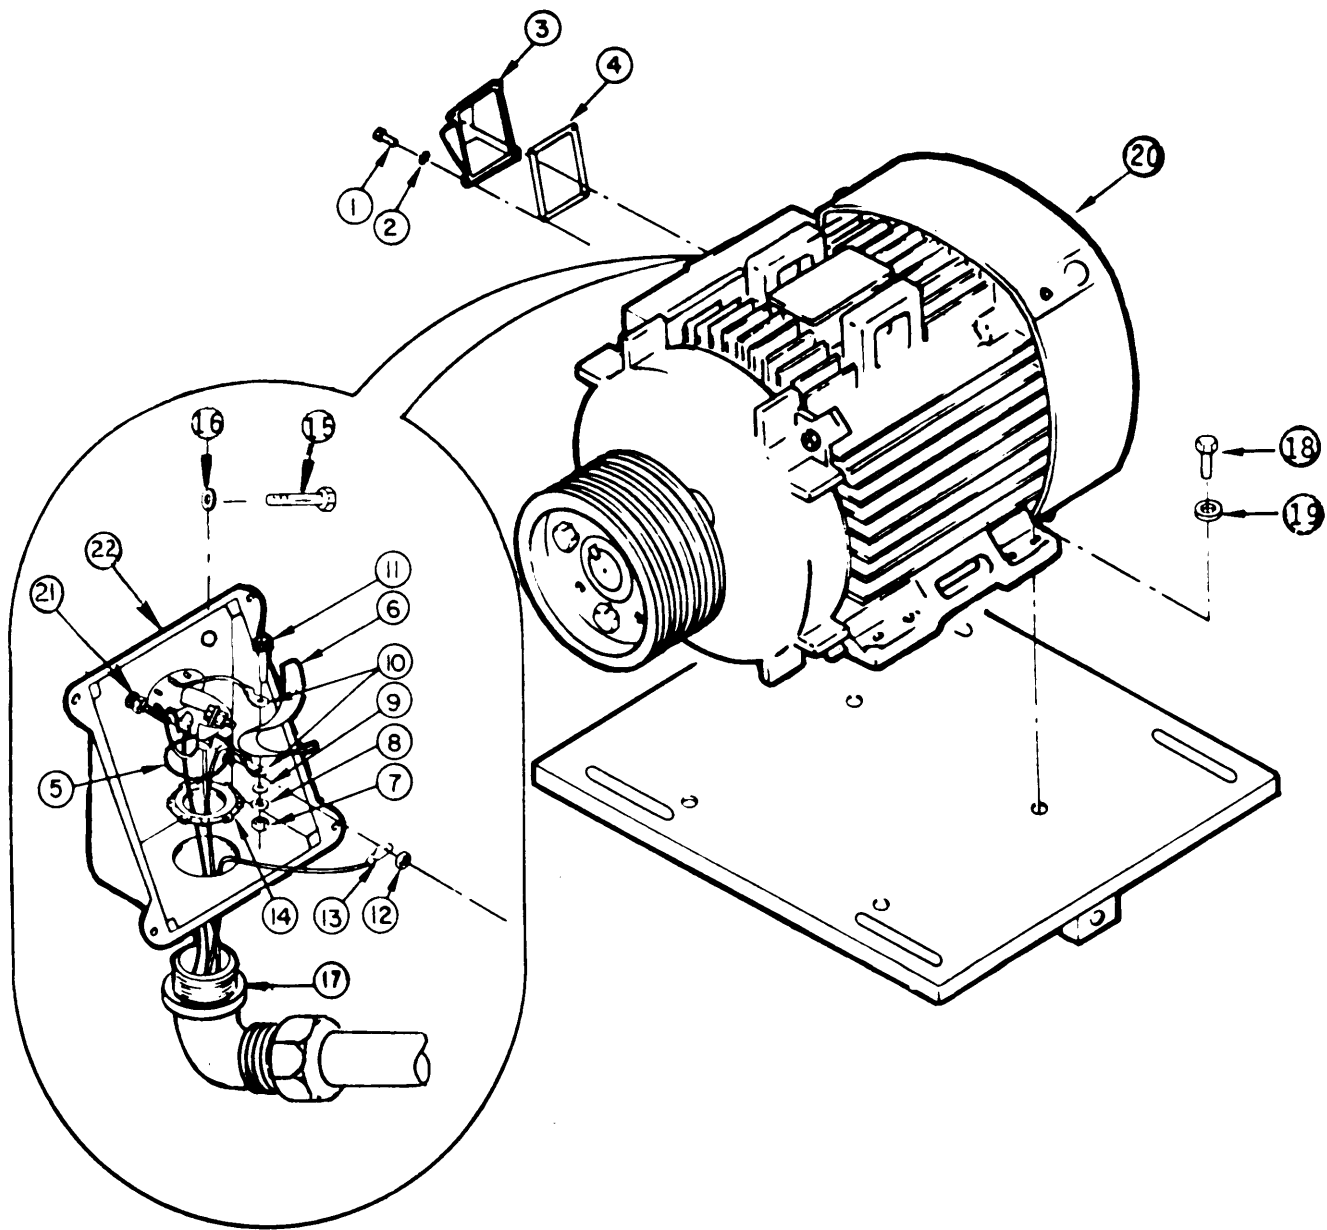

Figure 2-49. R.O. Pump Motor
b. Removal. (Figure 2-49)
- (1) Remove R.O. pump belt shroud in accordance with paragraph 2-75.
- (2) Remove R.O. pump belts in accordance with paragraph 2-76.
- (3) Remove R.O. pump motor sheave assembly in accordance with paragraph 2-77.
f. Installation. (Figure 2-49).
- (1) With proper equipment, place R.O. pump motor (20) onto R.O. pump assembly stand.
- (2) Install four lockwashers (19) and four bolts (18) into R.O. pump motor (20) and R.O. pump assembly stand.